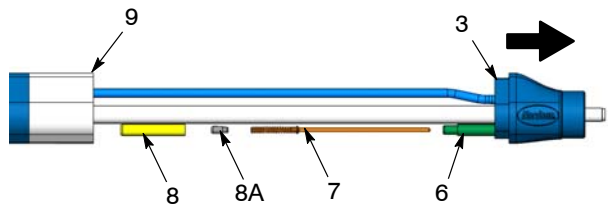

Figure 27 Removing the Resistor – Bar-Mount Guns
Bar-Mount Guns: See Figure 27. Pull the adapter (3) away from the body tube (9) far enough to access the sleeve (8) and resistor guide (6).